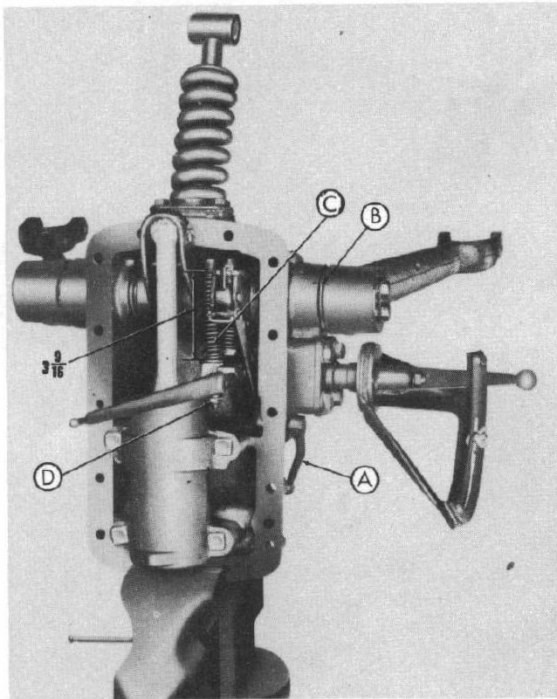

Fig. 7
- a. Be sure the implement position control lever (A-Figure 7) is disengaged.
- b. Check the length of the constant draft spring (C-Figure 7). It should measure $3\frac{9}{16}$ ".
- c. If the spring is too long or too short adjust the nut (D-Figure 7) until the correct spring length is obtained. If the adjusting nut is a locknut tighten up until the washer bears against the shoulder.
- c. Raise the lift arms to their top operating position as indicated by marks on the lift arm and housing (B-Figure 7).